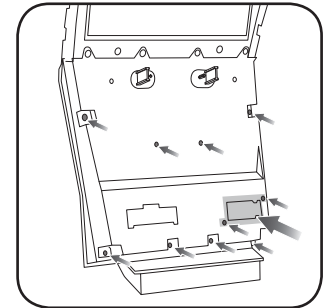

Fig. 3.4
4. Reinstall the connector housing removed earlier. Secure the backplate with the ten included Phillips screws. (Fig. 3.4)